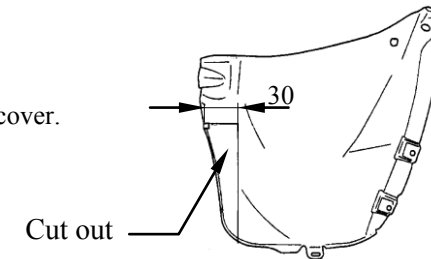

Fig. 3. Right side cover – cut out.
3. Disassemble plastic covers from both sides of the chassis, see fig. 3.
4. Put main bar of the towing hitch (pos. 1) to chassis members in this way, so holes of the towing hitch agree with original holes in chassis members. Twist bolts M12x1,25x35mm (pos. 4).
5. Mount cover elements after cut right element according to figure 3.